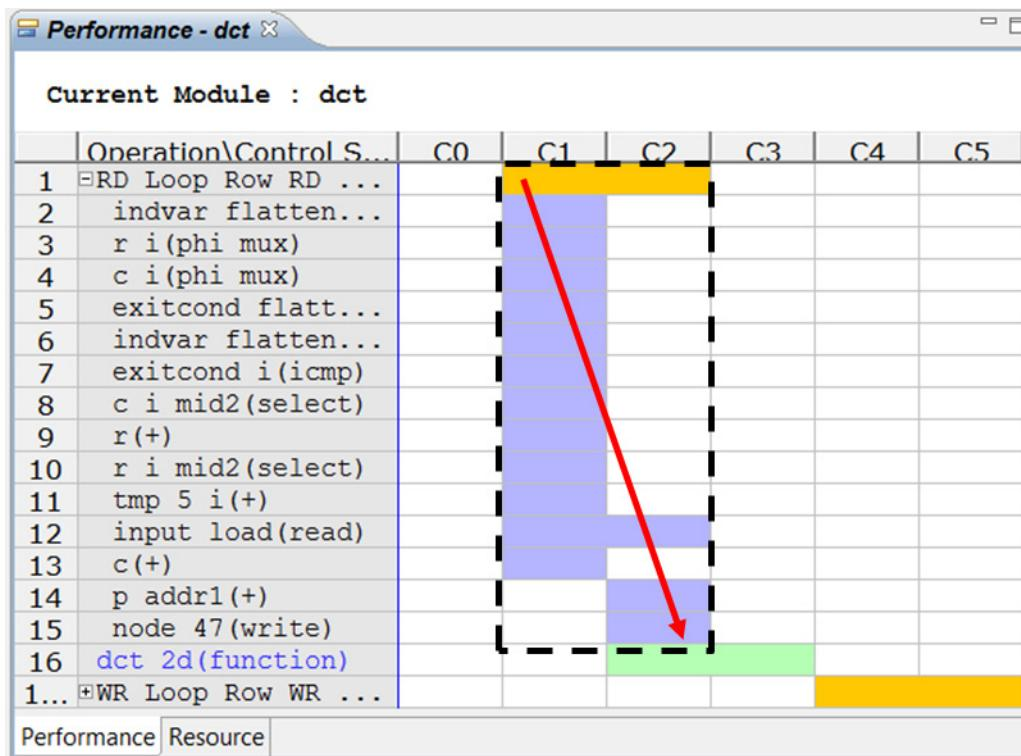

Figure 6-22: Analysis of DCT RD_Loop_Row
- In the **Performance** view, expand the first loop in the design as shown in Figure 6-22, **RD_Loop_Row_RD_Loop_Col** (these loops were flattened and the name is now a concatenation of both loops).
This loop is implemented in two states. The red arrow in Figure 6-22 shows the path from the start of the loop to the end of the loop: the arrow is almost vertical (everything happens in two clock cycles) and this loop is well implemented in terms of latency.